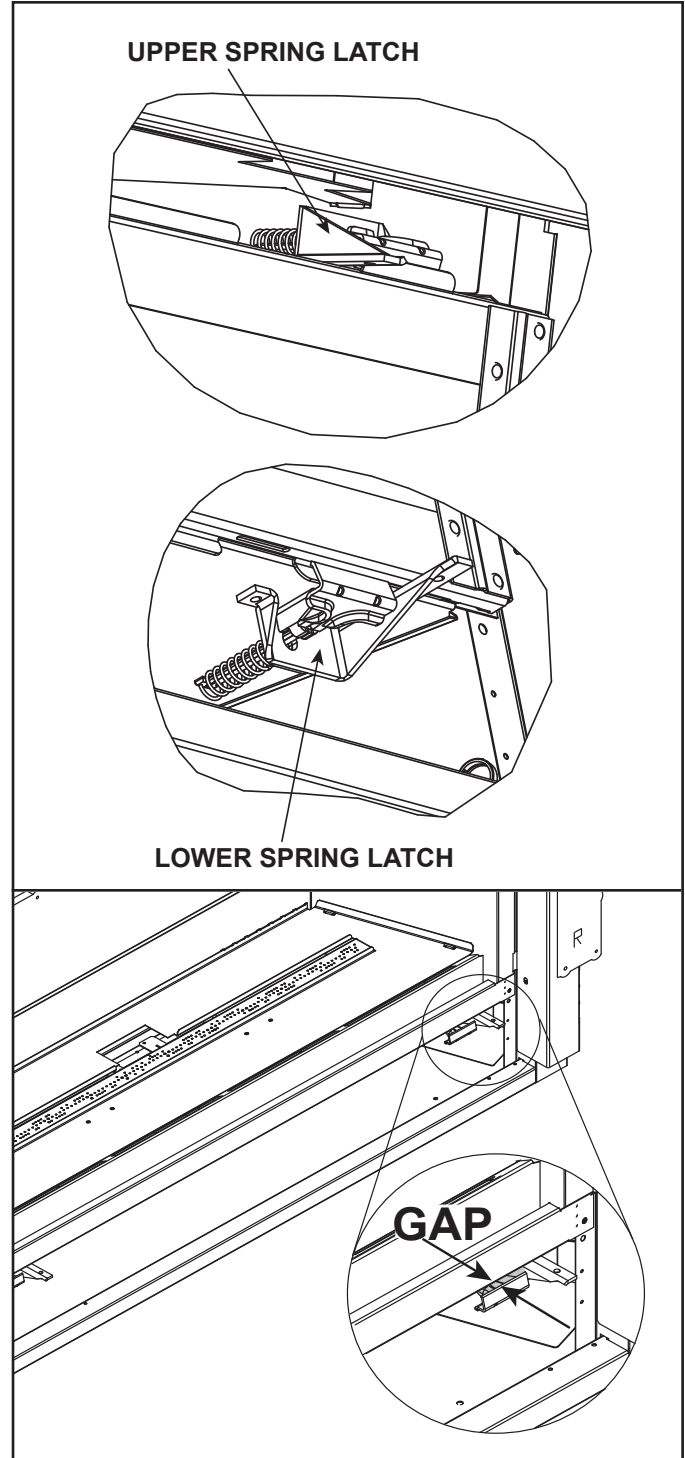

Figure 11.11 Fixed Glass Assembly
2. The glass assembly has two upper spring latches and two lower spring latches. See Figure 11.11. Locate the two spring latches that are on the upper left and right of the fireplace.
Note: Observe the presence of a space or gap between the glass latch and the front of the appliance where the bottom of the glass assembly is positioned. This gap is designed for positive placement when replacing the glass assembly. See Figure 11.11.
The bottom glass latches have been designed to create a small gap between the glass clip and the face of the appliance. See Figure 11.11.